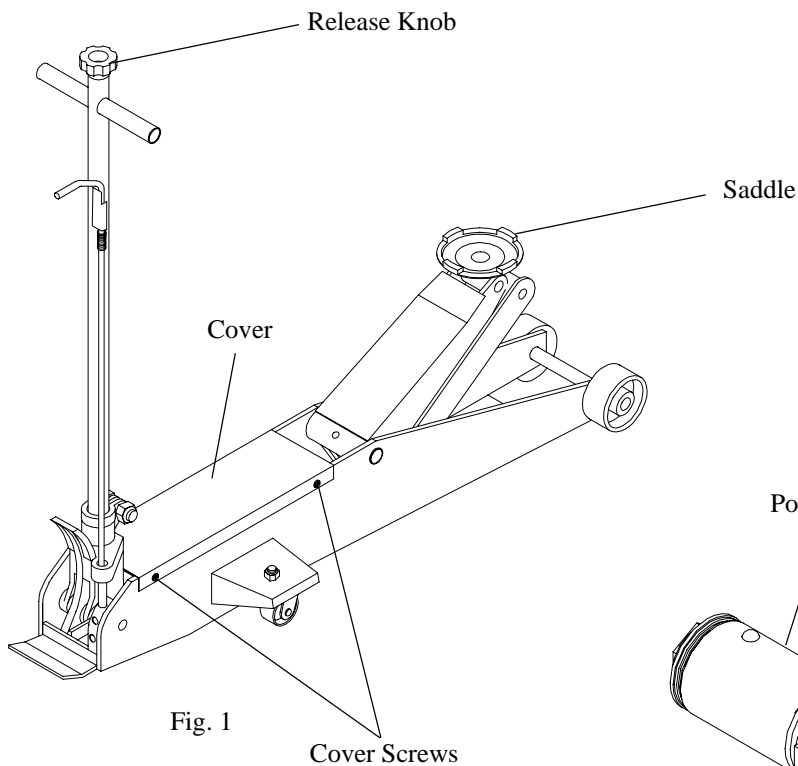

Fig. 1
2. Release cover screws, and remove cover, refer to Fig. 1.